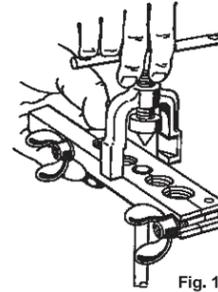
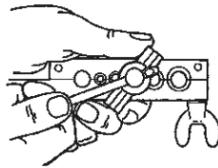

Fig. 1
Fig. 2
4. Insert the tubing into the die of the corresponding size so that it is slightly above the top of the die. Two of the dies in the bar are chamfered on the opposite side from the chamfer in the other dies. This has been done to permit attachment of the yoke without interference by the wing nuts. Position the bar so that the chamfered side of the dies faces the flaring cone. (See Fig. 1.)
6. Place the yoke over the bar of the tool so that the cone is over the tubing. Note that the yoke of this tool is the Imperial slip-on type which can be slipped directly over the bar without twisting or turning. (See Fig. 1.) The inside edges of the yoke are slotted so that once in position, a slight turn clockwise holds it in place. The yoke should be held in position by the thumb and the forefinger. (See Fig. 2.)